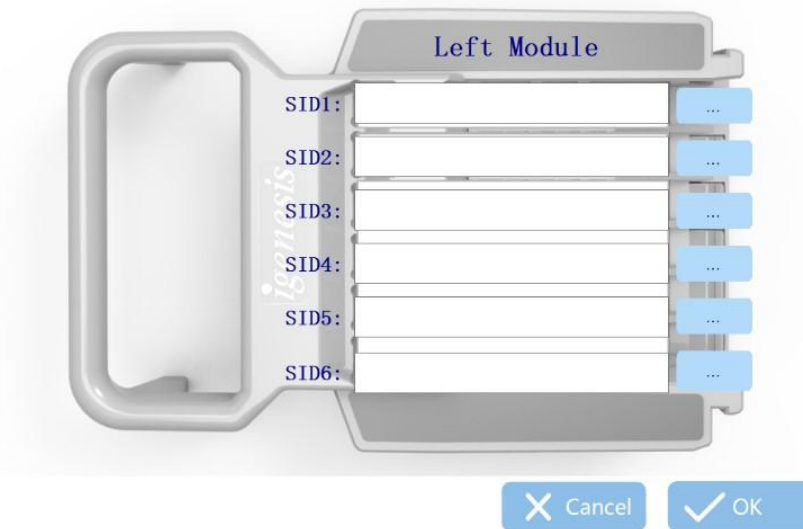

Figure 6-4 SID entry interface
(1) Click the "Run" button of the corresponding module of the system software, and the instrument compartment door of the instrument will automatically open, and the following SID input interface will as shown in figure 6-4
After confirming that the iCassette Tray loading is complete, click the "OK" button in the "Figure 6-4 Sample ID Entry" interface and the instrument will automatically start and scanning the code. At this time, the compartment door on the Galaxy Pro instrument automatically closes.
- Click the "OK" button in the "Figure 6-4 Sample ID Entry" interface, the tray will be automatically put into the compartment.